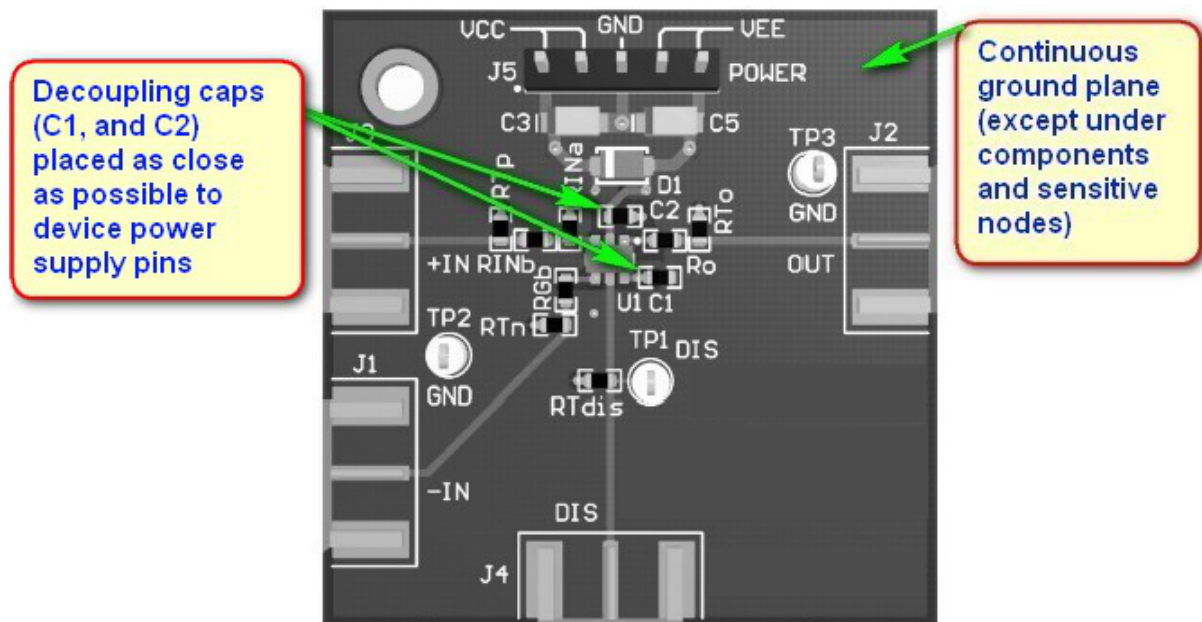

Figure 58. LM8261 Evaluation Board Layer 1
- Continuous ground planes are preferred for signal routing with matched impedance traces for longer runs. However, open up both ground and power planes around the capacitive sensitive input and output device pins as shown in Figure 58. After the signal is sent into a resistor, parasitic capacitance becomes more of a bandlimiting issue and less of a stability issue.
- Use good, high-frequency decoupling capacitors (0.1 μ F) on the ground plane at the device power pins as shown in Figure 58. Higher value capacitors (2.2 μ F) are required, but may be placed further from the device power pins and shared among devices. For best high-frequency decoupling, consider X2Y supply-decoupling capacitors that offer a much higher self-resonance frequency over standard capacitors.